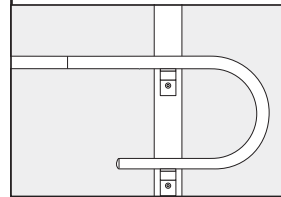

Fig. 10
3. Attach handrail loop to the mounting surface using two handrail brackets following the instructions in this guide (Fig. 10).